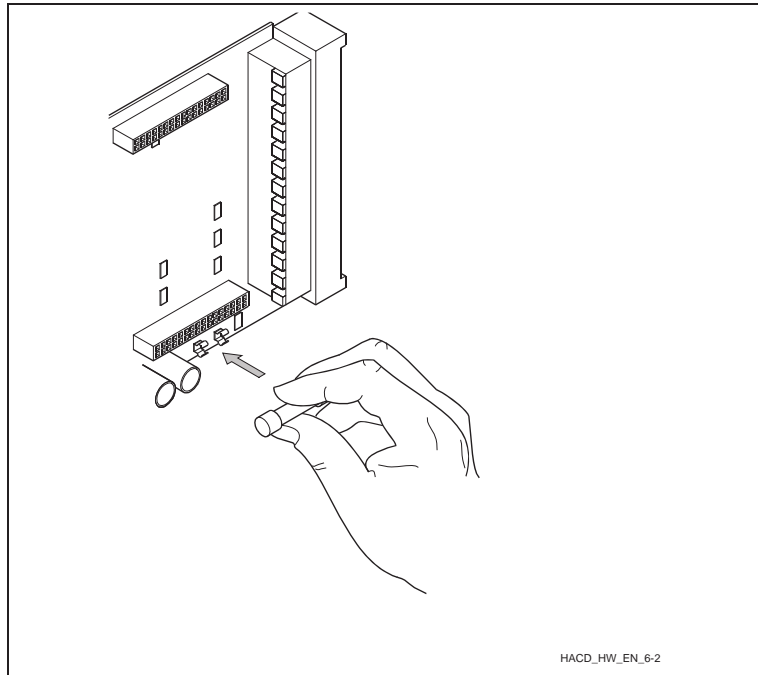

Fig. 19 Fuse on the HADC Controller Card
- Gently remove the fuse from the fuse holder (see Fig. 19).